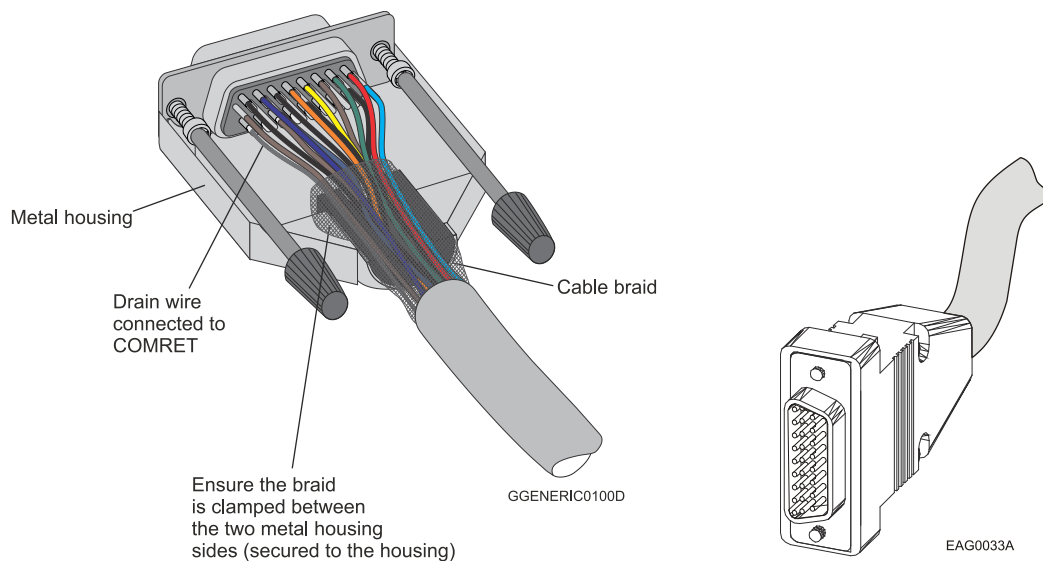

Figure 6: D-Type Cable Assemblies
5. Use only a D-Sub connector with a **metal housing** (Figure 6).
6. Make sure the braid shield is in tight contact with the metal housing of the D-type connector (Figure 6).